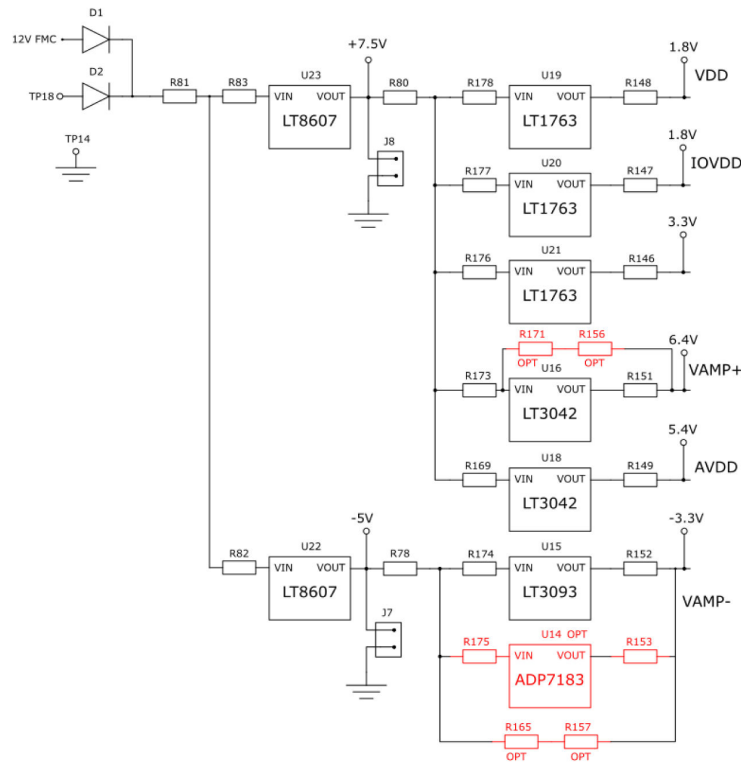

Figure 3. Power Circuitry Diagram
The block diagram in Figure 3 shows all the available power supply options on the EVAL-AD4630-20FMCZ evaluation board. In case necessary, it is possible to supply all the LDOs directly from external power supplies by J7 and J8. There are also two options for generating -3.3V, although only the LT3093 is mounted on the board.
- ▶ On-board generated rails (default): The LT1763 regulators (U19 and U20) supply the rails in this circuit, as shown in Figure 3.
- ▶ On-board generated rail (default): An LT3042 LDO regulator (U18) supplies the rail, as shown in Figure 3.